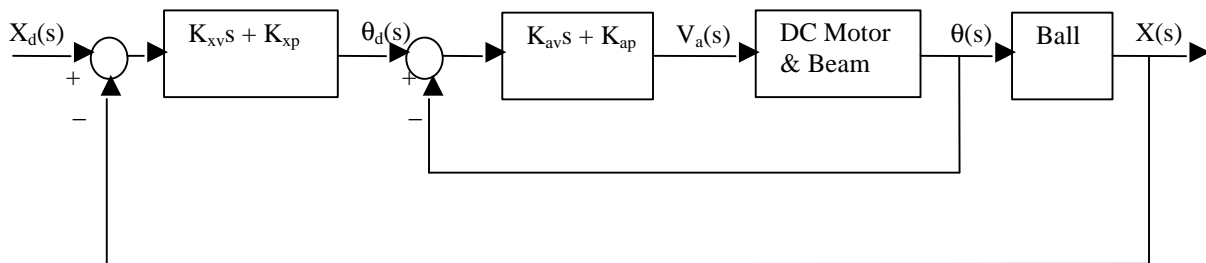

Figure 4: Proposed Ball and Beam Control System
4. The multiple open-loop ball/beam/motor system poles at zero imply that we probably shouldn't use a PID controller since it adds another pole at zero and makes our pole placement even more difficult. One solution is to use two PD controllers (beam angle and ball position) that effectively give us two additional zeros to pull existing unstable poles to the left without adding poles. This approach is shown in figure 4 where $x_d(t)$, $x(t)$ are the desired and actual ball position, respectively, and $q_d(t)$, $q(t)$ are the desired and actual beam angle, respectively.